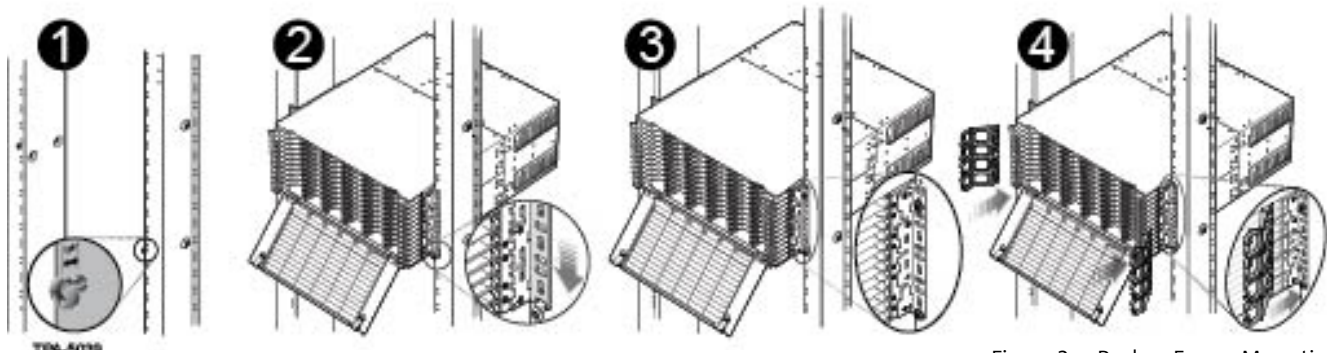

Figure 2— Rack or Frame Mounting
**Step 1:** Identify the position on the rack where the housing will be installed and partially install screws to rest the mounting brackets on Figure 2.